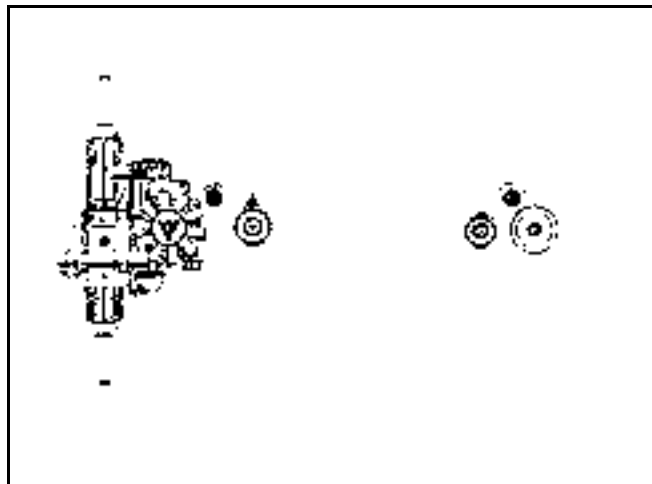

Figure 158
10. Check the routing of the belt around both the engine and transaxle pulleys, the front flat and v-idlers and the rear flat and v-idler pulleys (Figure 158).